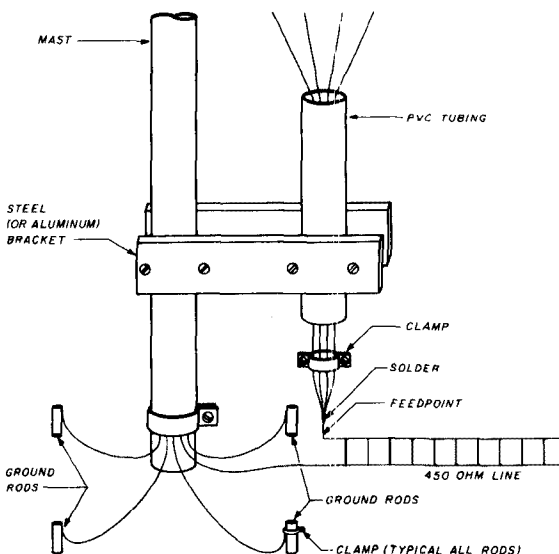
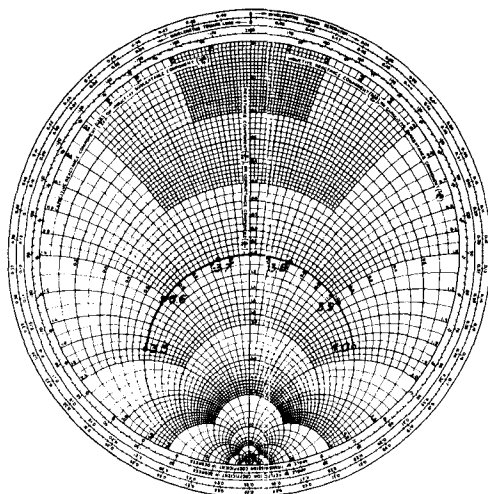
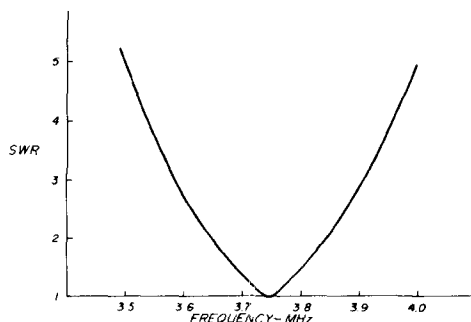

fig. 6. Mechanical details at the bottom end of the TV mast. The ground rods are essential for good performance.
fig. 2. Calculated input impedance of the dipole equivalent circuit, normalized to 50 ohms.
fig. 3. Calculated SWR of the dipole equivalent circuit.
7. Tie two small loops in each of the four top nylon guys as shown in fig. 2. These loops should be about 4 and 8 meters (12.5 and 25 feet) from their attachment points on the mast.
14. Attach four more 3-mm (1/8-inch) nylon guys to the ring at the top of the section just above the bottom section. This set of guys will end up, on full erection, 6 meters (20 feet) above the ground (fig. 2).
16. Now, provide a bracket at the base of the mast for the purpose of connecting the four umbrella wires together while insulating them from the mast. This is the feedpoint for the antenna. One suggested method of anchoring and insulating the feedpoint is shown in figs. 2 and 6. However, as with other parts of this project, there are many different mechanical arrangements which will produce the same electrical results. Use your ingenuity. Remember, none of the dimensions are really critical, since the tuned feeders compensate for physical variations. If you're following fig. 6, however, pull the umbrella wires through the PVC tubing, tighten the clamp below the tubing, and trim off excess wire, leaving several cm of wire below the clamp. Now, bare the wires below the clamp and solder them together.
securely to the mast with heavy copper wire, tubing or strap (fig. 6).
snow, or rain, as far as tuning is concerned. Figs. 2 and 7 show a simple, practical way of supporting the line. For the experimental model, it was necessary to run the line 18 meters (60 feet) to the house, keeping it at least 3 meters (10 feet) above ground. To relieve tension on the line, 3-mm (1/8-inch) nylon was threaded through the holes in the line and stretched from the mast to the house, serving as a "messenger" cable. Here again, use your own ingenuity to fit your situation.
The plot of the calculated impedance for this mathematical model is shown on the Smith chart in fig. 2. The accompanying SWR plot is given in fig. 3.